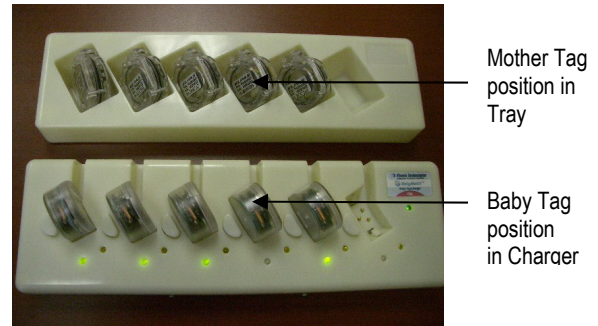
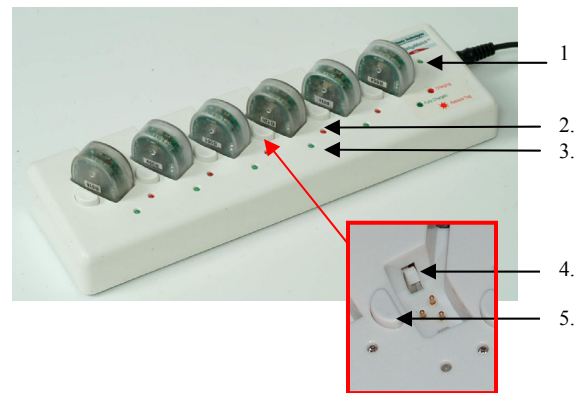

Figure 1-1. Tag Position in Charger
Figure 2-1. Charger
The Charger (Figure 2-1) is a microprocessor controlled charger which enables recharging the baby tag battery. This charger allows up to six tags to be charged simultaneously. Tags are locked into cradle and a Tray (optional) is provided for matched Mother Wrist tag (Figure 1-1). The Charger is powered by 9V / 1A external DC supply. The battery charger has LED indications for Battery charging, Battery ready and Battery failure. A **self test** ensures correct functionality of LEDs.
- A separate Tray (optional) can be placed alongside the Charger (see Figure 1-1). The matched Mother Tag is placed in this Tray next to the corresponding Baby Tag so that the pair remains together.